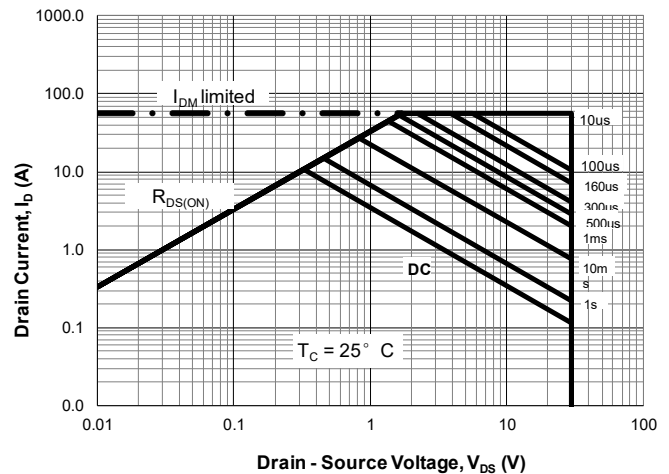

Figure 22: Safe Operating Area (SOA) curves for Sink power switch
Referring to the SOA curve in Figure 22, the maximum power allowed for 2ms (DC) is 50W (2.5A x 20V or 5A x 10V). The AOZ1327DI power switch is robust enough to drive a large output capacitance with load in reasonable soft-start time.